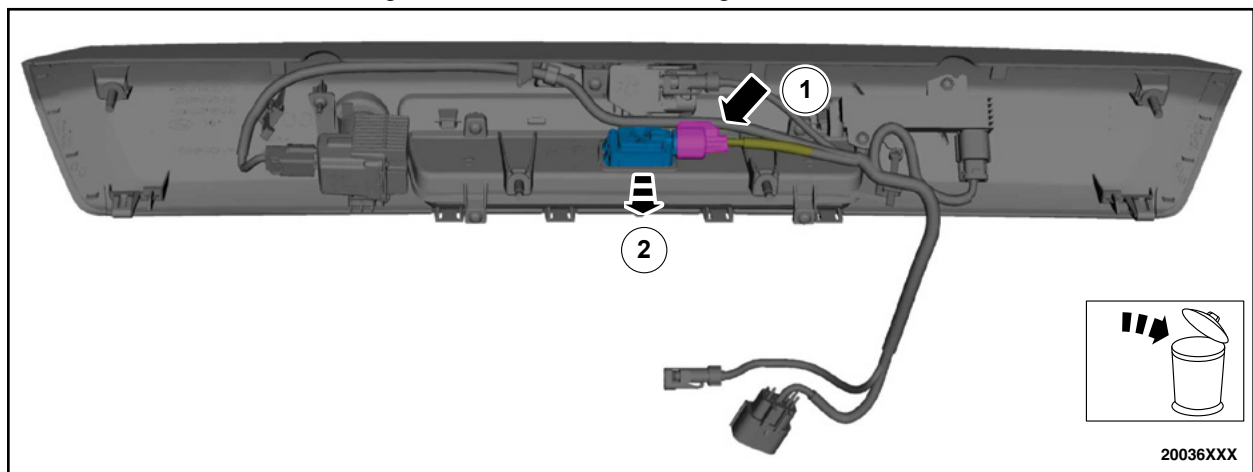

FIGURE 63
84. Remove and discard the Tailgate Release Switch. See Figure 63.
85. Install the *new* Tailgate Release Switch by reversing the removal procedure. See Figure 63.